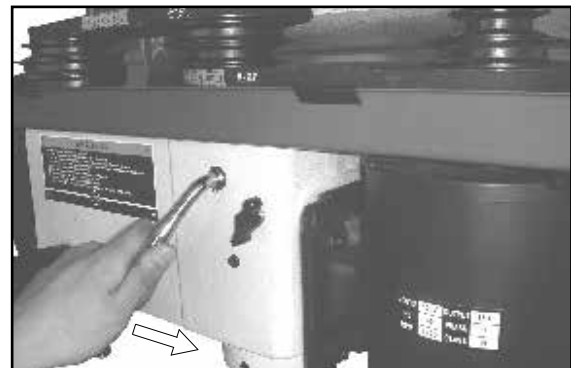

Figure 10
5. Release the locking knobs on the both sides of drill press head. Release the tension on the belt by swinging the tension lever from right to left (Figure 10).